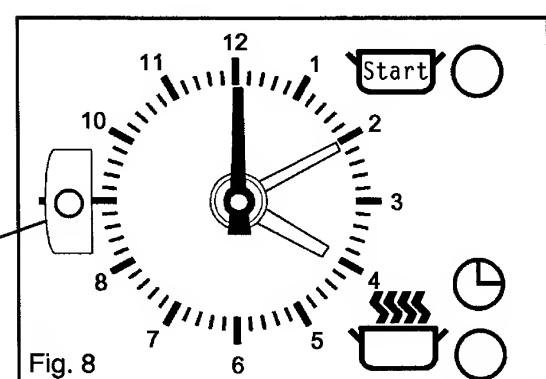

Fig. 8
- viii) The start time indicator (E) will move with the hour hand of the clock until the length of cooking time is complete. A buzzer will sound which can be cancelled by following point 4 as Fig. 8.